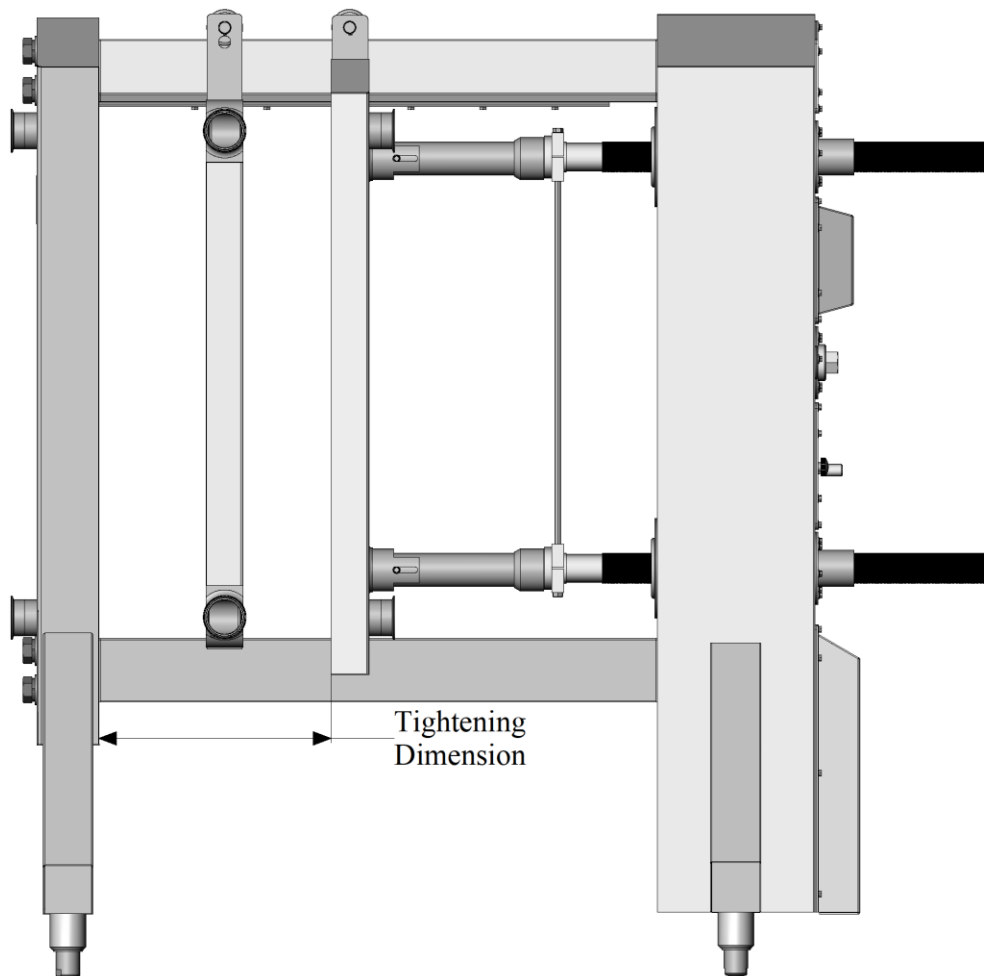

Figure 4
To close the frame, apply power to the hydraulic power unit. Before closing the press the operator should make sure all pipes and lines are clear and the plates are in the correct arrangement per the drawing. Move the open/close lever to the upper locked position. This lock or detent will hold the valve in position until the frame is approximately one to two inches from the start dimension. If this is the first time closing a new press or the first closure after installing new plates the compressed dimension should be observed and compared to that shown on the drawing. Hold the handle in the closed position and continue closing until the unit stalls. After the unit stalls you will be at the “dead-hard” dimension, which is between the start and minimum dimension for a new unit. You are now ready for operation. It should also be noted that as the plates compress, it is normal for the plate pack to make crackling noises. This is caused by the plates sliding along the support rail and is not a cause for alarm. After the hydraulic unit has stopped closing (stalled) disconnect power to the unit and make a note of the actual “dead-hard” dimension as shown in figure 4. If this dimension is below the minimum and the plates are installed per the drawing, you should consider purchasing a new plate pack or obtain a professional opinion from one of our factory engineers as to the actual condition of the plates.
4. Measure and record compressed dimension of the plate pack (see figure 4).